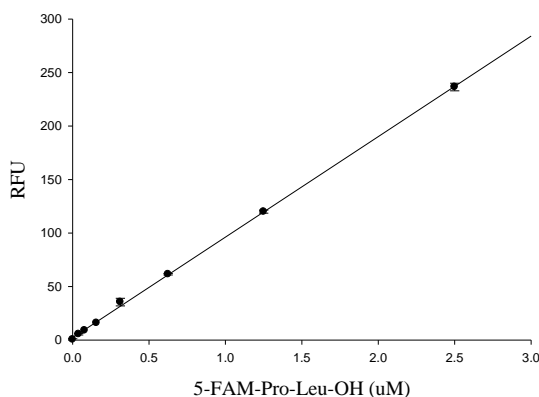

Figure 2. 5-FAM-Pro-Leu-OH reference standard curve
- Plot 5-FAM fluorescent reference standard as RFU (relative fluorescent unit) versus concentration as in **Figure 2**.